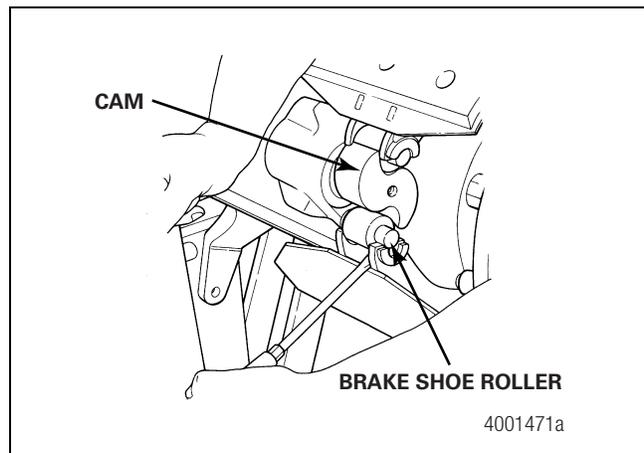

Figure 5.1
1. Place a pry bar between the bottom brake shoe and the cam. Push the shoe away from the cam and remove the brake shoe roller from the bottom shoe. Figure 5.1.
2. Place a pry bar between the top brake shoe and the cam. Push the shoe away from the cam and remove the brake shoe roller from the top shoe. Figure 5.1.